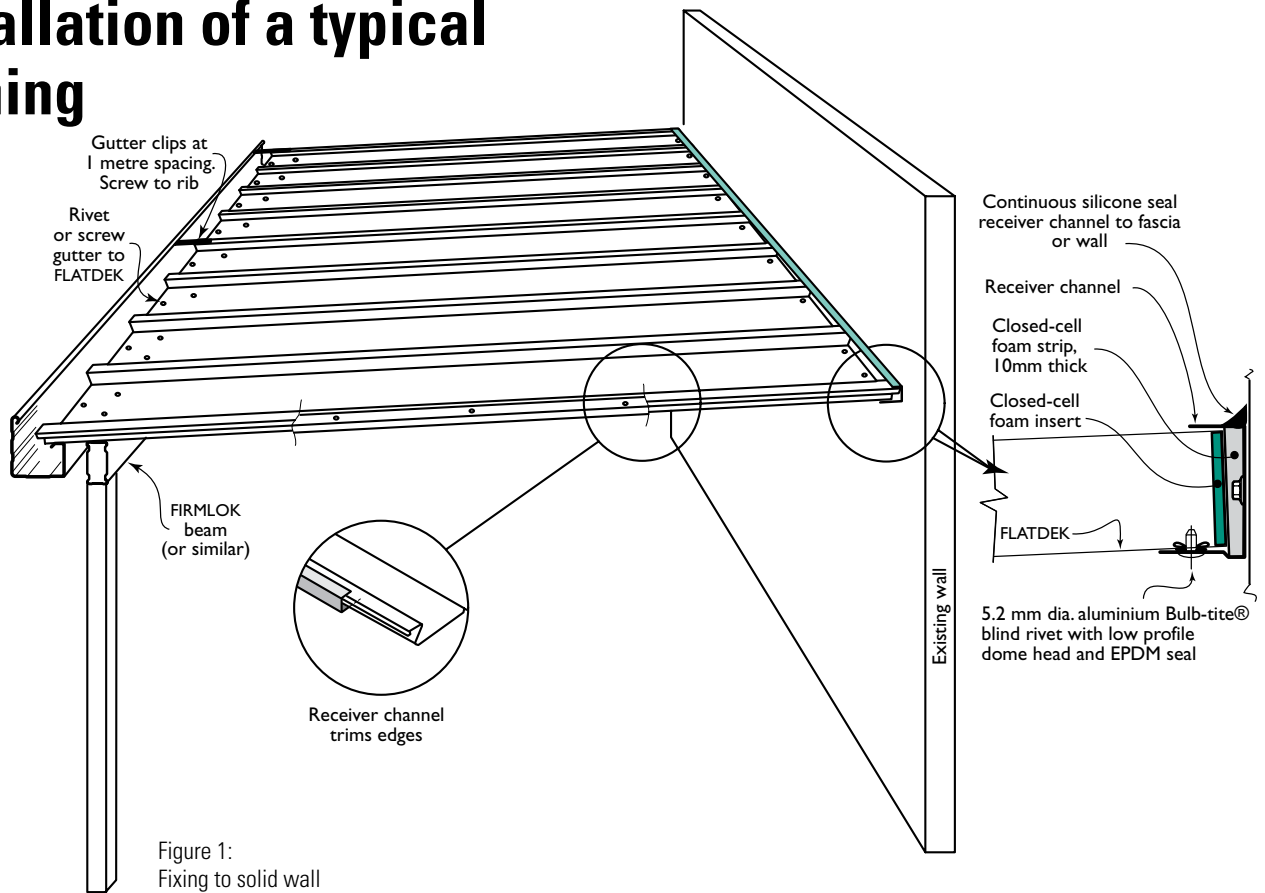

Figure 1:
A receiver channel is usually used to securely fix the FLATDEK roof to the main building—usually to the building fascia, but the channel can be fixed to any solid wall if there is sufficient height (Figure 1).
- Fix the sheet at the receiver channel end (Figure 1).